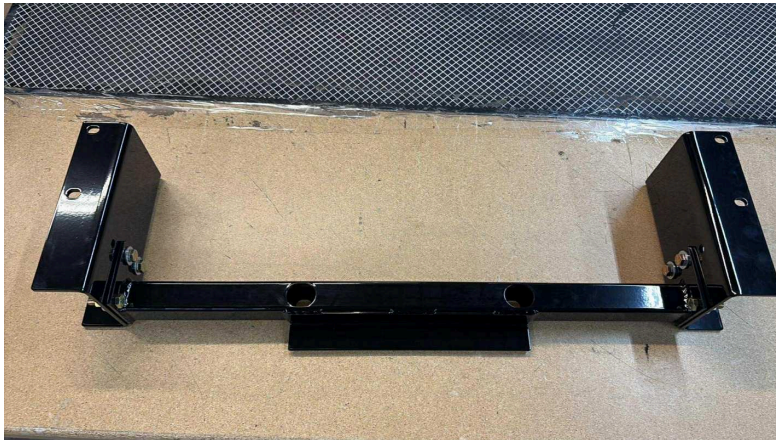

Figure 6: Middle crossmember placement and tank Insulator installed.
A) Install middle crossmember to your 6416A brackets using the six  $\frac{3}{8}$ -16 x 1" Gr 8 Hex Bolts, twelve flat washers, and six Nylock Nuts which are all provided. The large oval holes should face up. Install tank isolator on flange. (**Fig:6**).